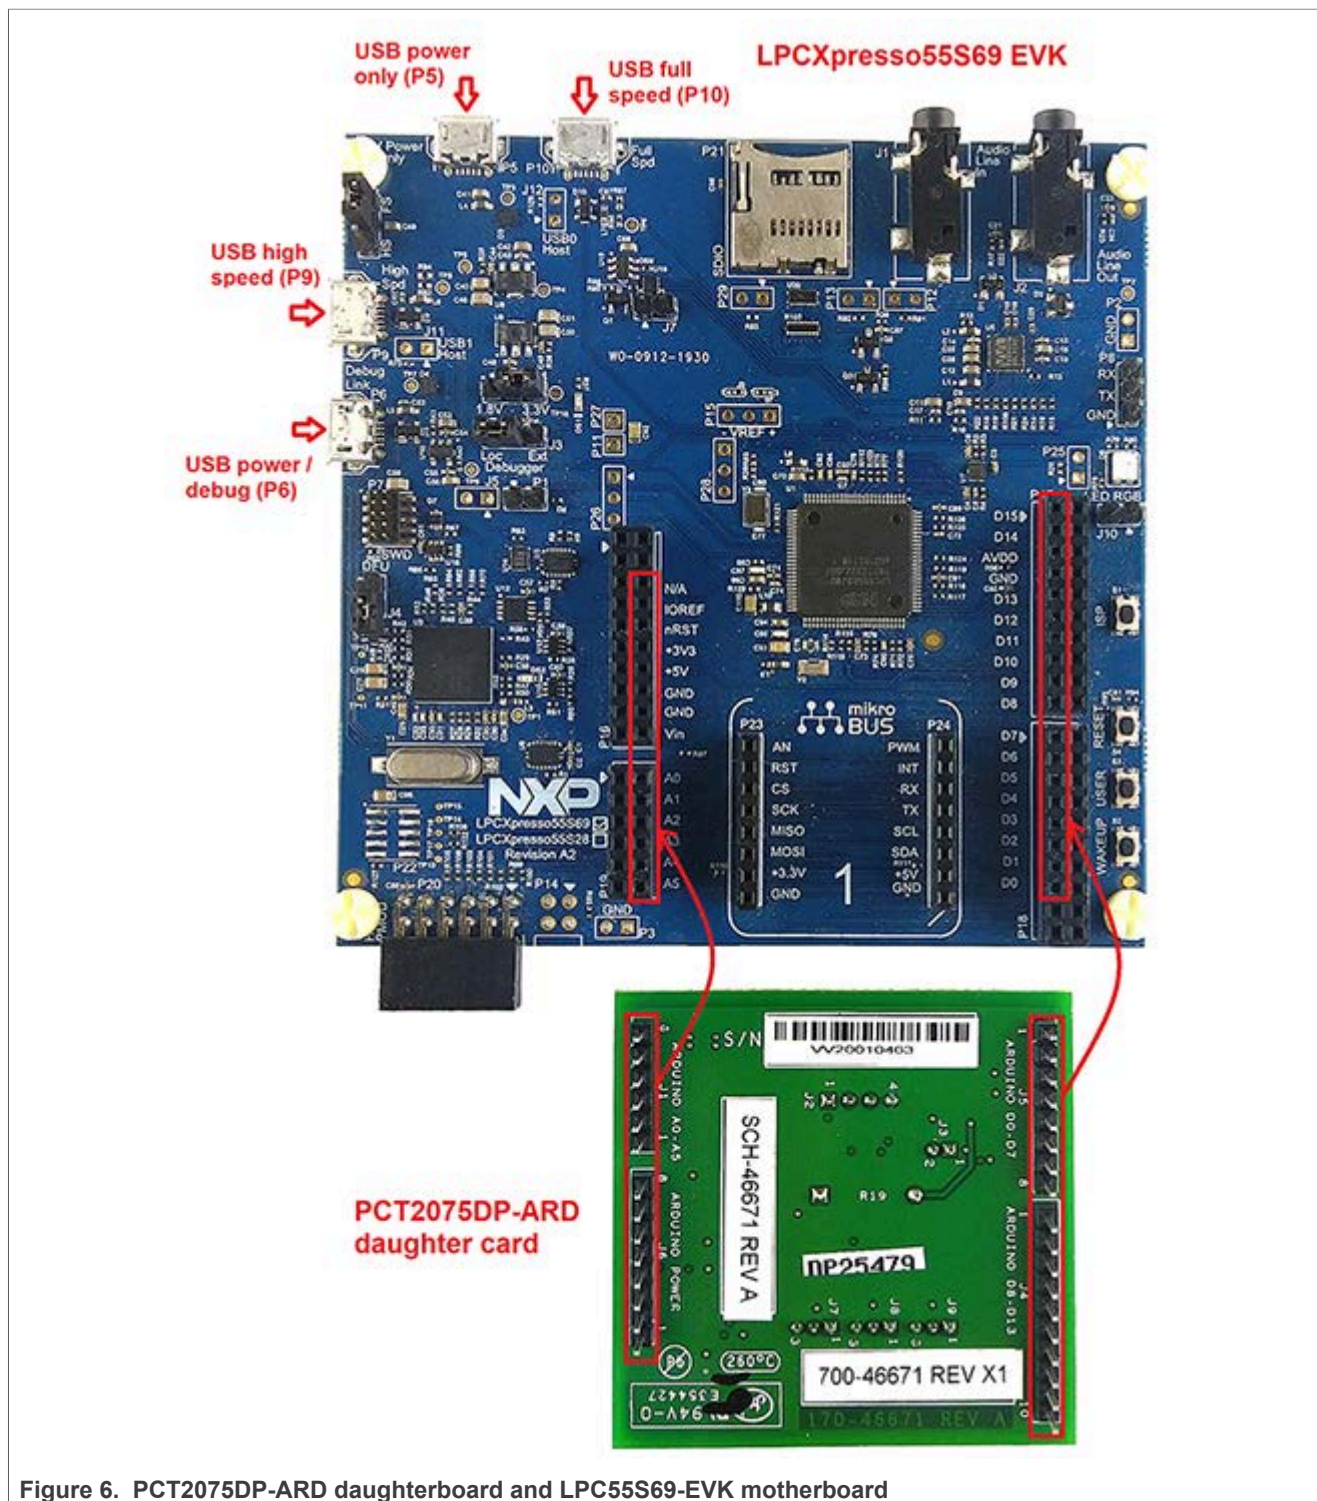

Figure 6. PCT2075DP-ARD daughterboard and LPC55S69-EVK motherboard
Figure 6 shows the required hardware for operation of the PCT2075DP-ARD and LPC55S69-EVK board.
1. Insert the PCT2075DP-ARD daughter card to P16 – P19 connectors located on LPC55S69-EVK development board (see the marked pins of P16 – P19, Figure 6)